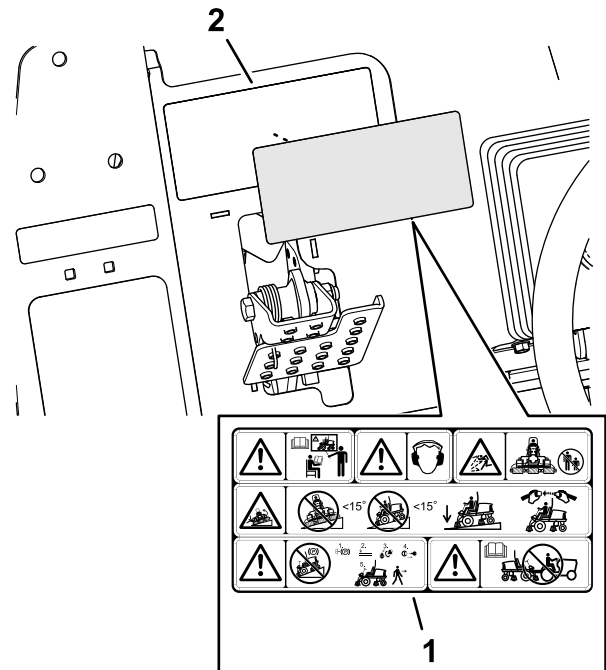

Figure 39
1. Use rubbing alcohol and a clean rag to clean the surface of warning decal 133-2930, and allow the decal to dry (Figure 39).